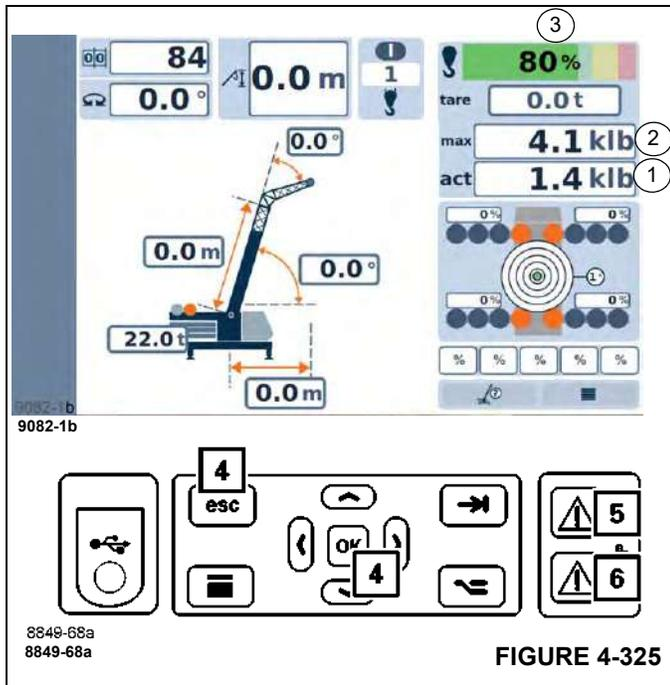

FIGURE 4-325
- After five seconds, you can disable the buzzer tone using button (4), (Figure 4-325).
- Lamp (6), (Figure 4-325) will illuminate.
- Display (3), (Figure 4-325) shows the current degree of utilization, e.g. 100%; the bar is red.
- The value on display (2), (Figure 4-325) is equal to or greater than the value on display (1), (Figure 4-325).